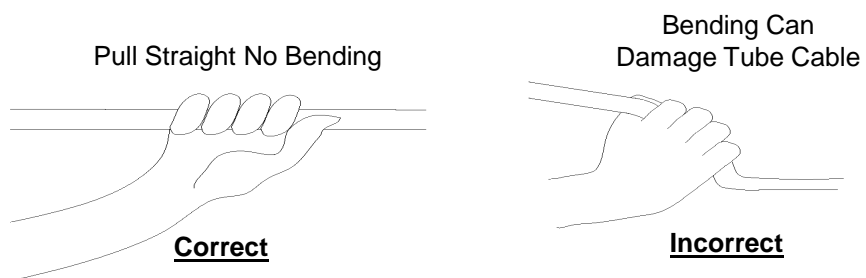

Figure 21
17.1.5 Always pull tube cable in a straight direction without bending. If needed, special gripping gloves are available to facilitate pulling lubricated tube cables. **See Fig. 21.**